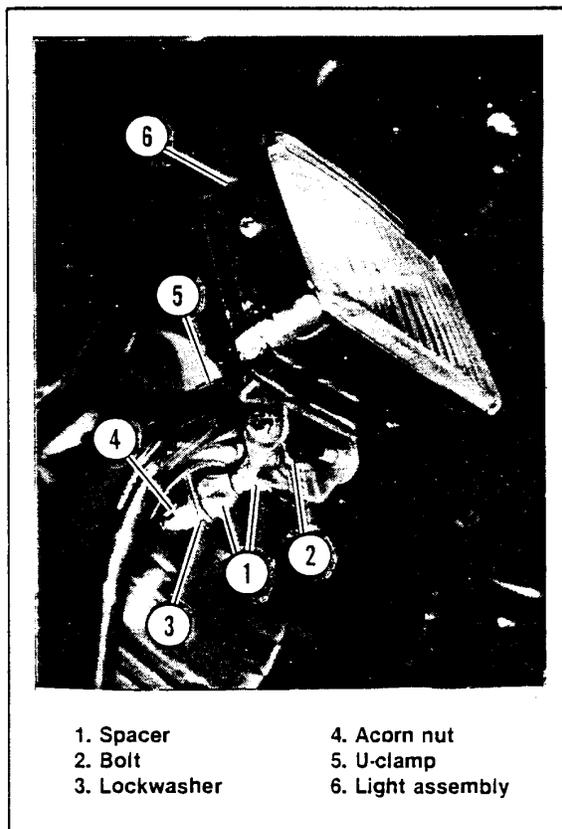

Figure 1. Light Mount
1. See Figure 1. Assemble passing light (6) to either side of engine guard, using one of the clamp kits supplied.